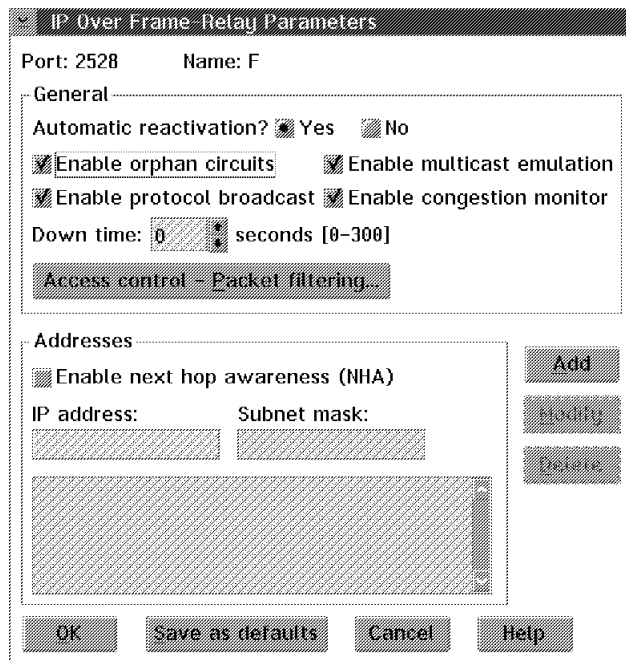

Figure 8-3. IP over Frame-Relay Parameters Window
**Step 15.** Click on **IP parameters** → **IP over Frame-Relay Parameters** window (see Figure 8-3).